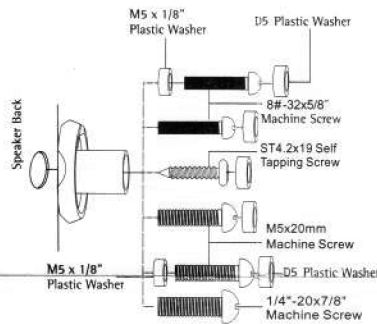

Figure 3
- Check the size of the hole and make sure the 8#-32x5/8\" machine screw, the ST4.2x19 Self Tapping Screw, the 1/4\"-20x7/8\" machine screw, or the M5 x 20mm machine screw fits inside (Figure 3).